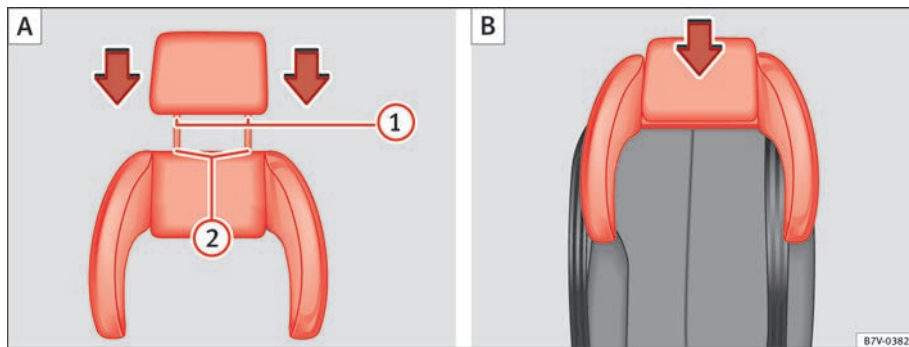

Fig. 30 Integrated child seats, position the head restraint over the side head restraint (A) and fit into place (B).
- Insert the guide rods  $\Rightarrow$  fig. 30 **1** of the head restraint into the guides on the side head restraint **2**.